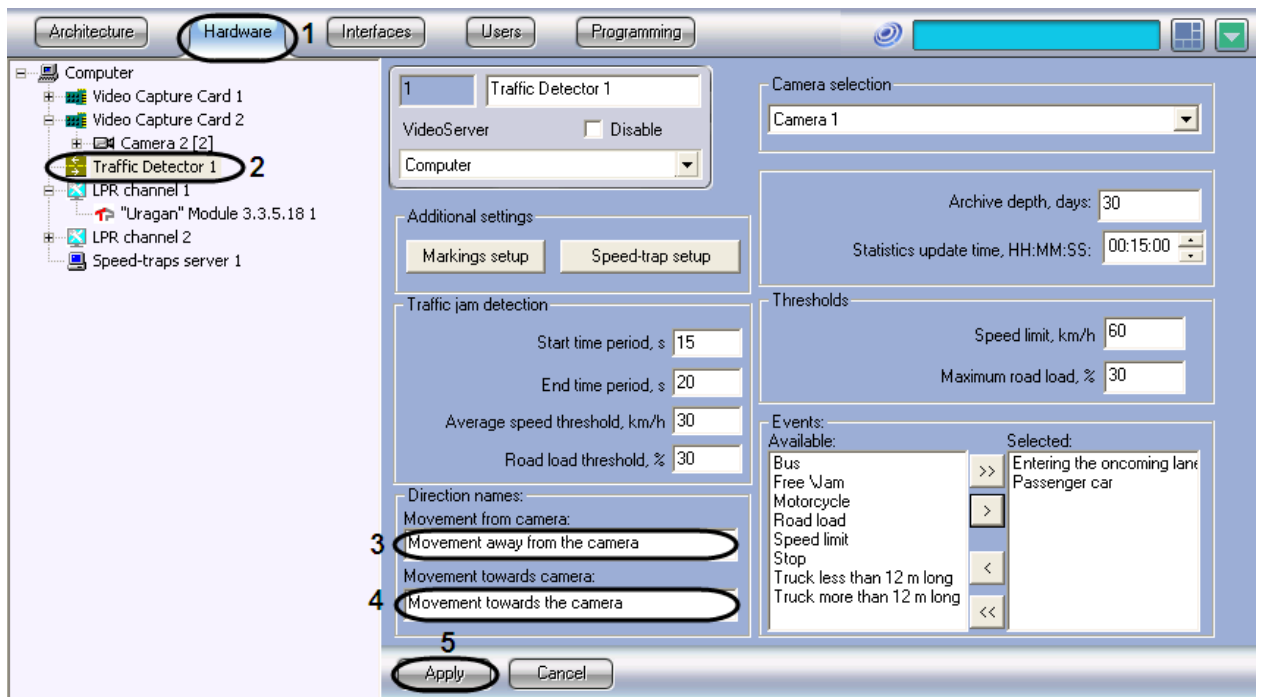

Fig. 7.4—19 The traffic direction names setup
2. In the object tree on the left side of the Hardware tab, select the Traffic Detector object representing the Traffic Detector module to be set up. The settings panel of the selected object will open on the right side of the window (see Fig. 7.4—19).